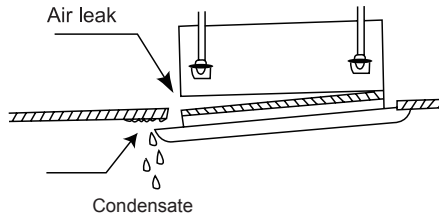

Fig. 4.32
- (2). Improper adjustment of the screws may cause condensate problems as shown in Fig. 4.32.